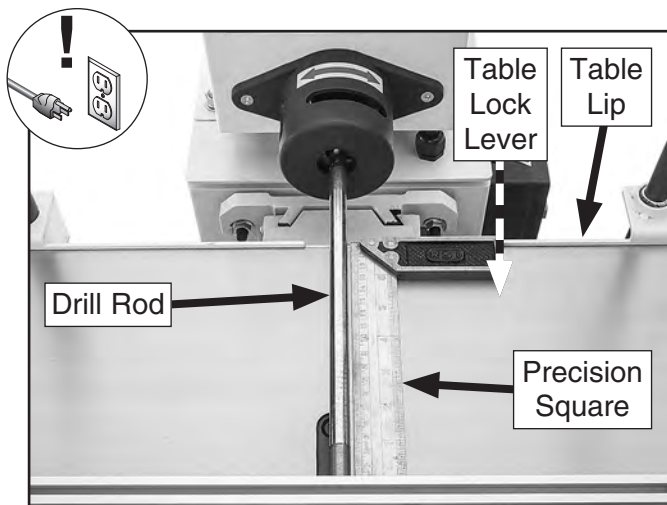

Figure 38. Checking chuck-to-table square.
4. Mount drill rod (round, straight metal $\frac{5}{8}$ " diameter) in chuck (see **Figure 38**). Rotate by chuck hand to ensure rod is straight and doesn't wobble.
5. Raise table just under drill rod, then tighten table lock lever (see **Figure 38**).
6. Place precision square evenly along table lip so it touches drill rod (see **Figure 38**).